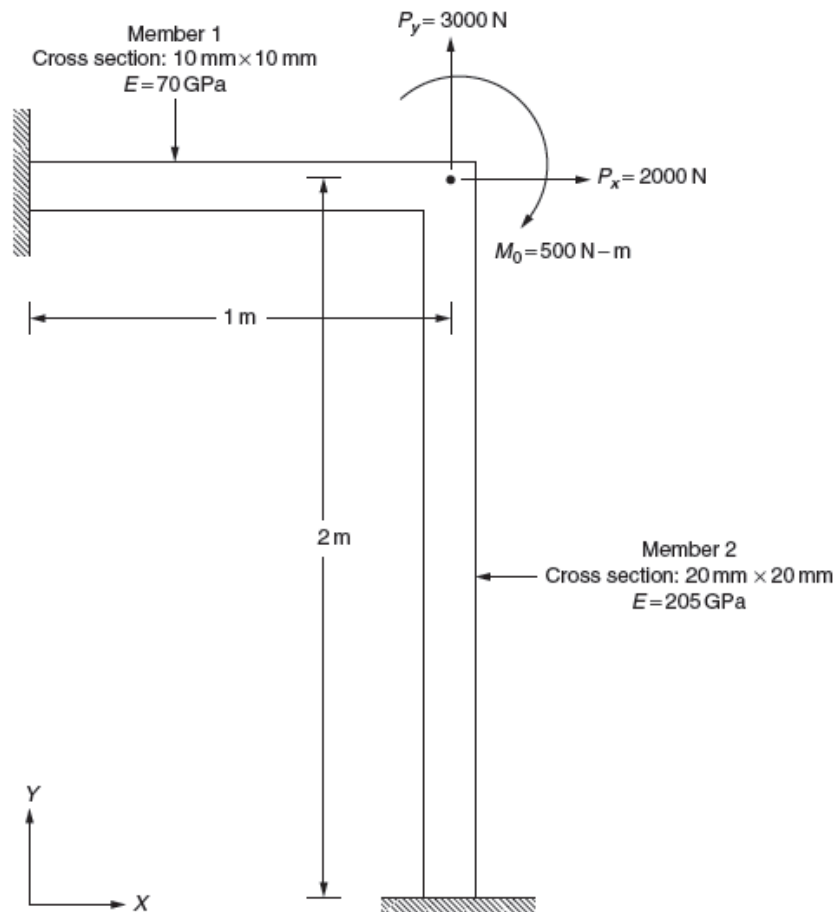

Figure P3.8
8. Determine the stress distribution in the two members of the frame shown in **Figure P3.8**. Use one finite element for each member of the frame.